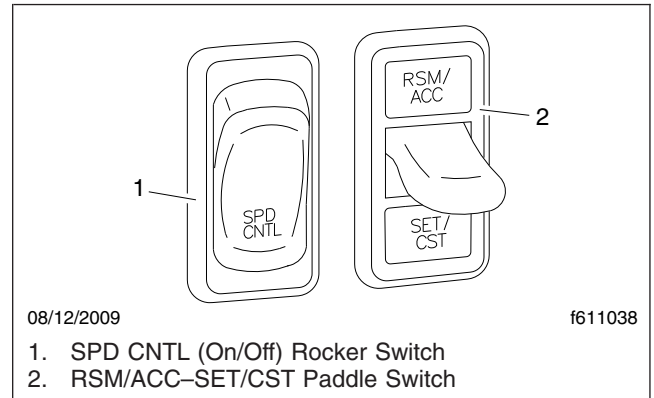
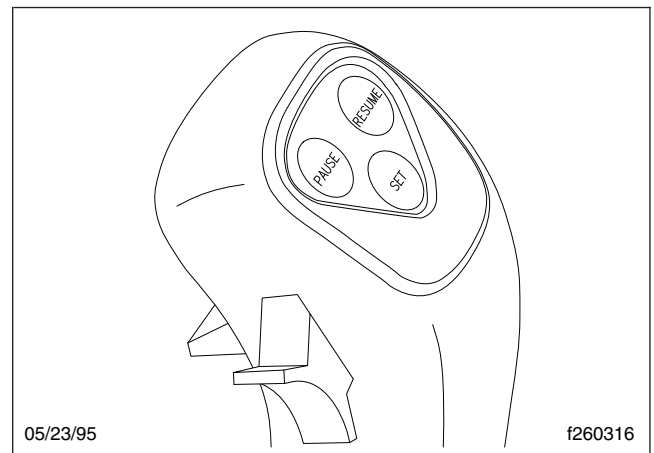

Fig. 10.3, Cruise Control Switches, Dash-Mounted
Fig. 10.4, Cruise Control, Transmission Shift Knob Buttons
The cruise control is activated by the SPD CNTL (on/off) and RSM/ACC-SET/CST switches on the dash (**Fig. 10.3**), or by optional PAUSE, RESUME, and SET buttons on the transmission shift knob (**Fig. 10.4**). The minimum speed at which cruise control can be used is 30 mph (48 km/h). The minimum and maximum speed cruise control set limits can be programmed, by authorized personnel, into the engine electronics.
- Remove your feet from both the clutch and throttle pedals. Press the dash-mounted ENG BRK switch to toggle the engine brake ON. See **Fig. 10.4**.